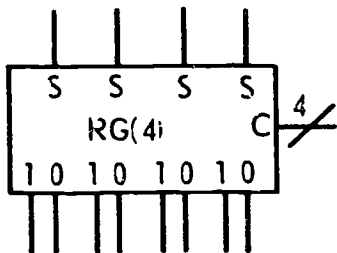

Figure 1-51. Register (objective 016, exercise 2).
2. What type of register is found in figure 1-51?